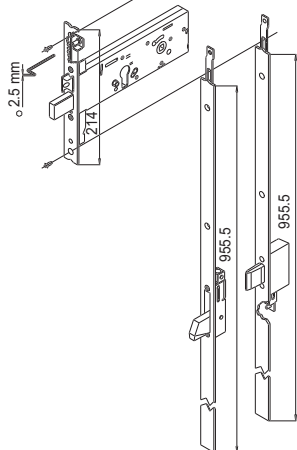
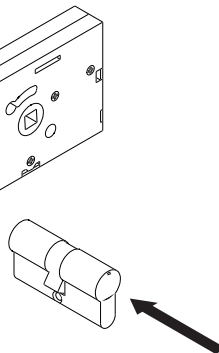

FIG. 24
FIG. 25
- I) Fissaggio cilindro (Fig. 24, Fig. 25).
- I) Fixation cylindre (Fig. 24, Fig. 25).
- I) Cylinder fixing (Fig. 24, Fig. 25).
- L) Installation instructions for cylinder protective rose item 06460-05/06 (see instruction sheet supplied with roses).
- I) Fijación del cilindro (Fig. 24, Fig. 25).